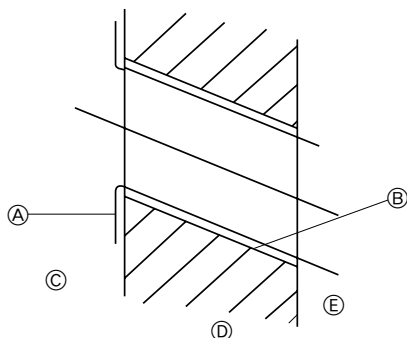

Fig. 3-3
2) Drilling the piping hole (Fig. 3-3)